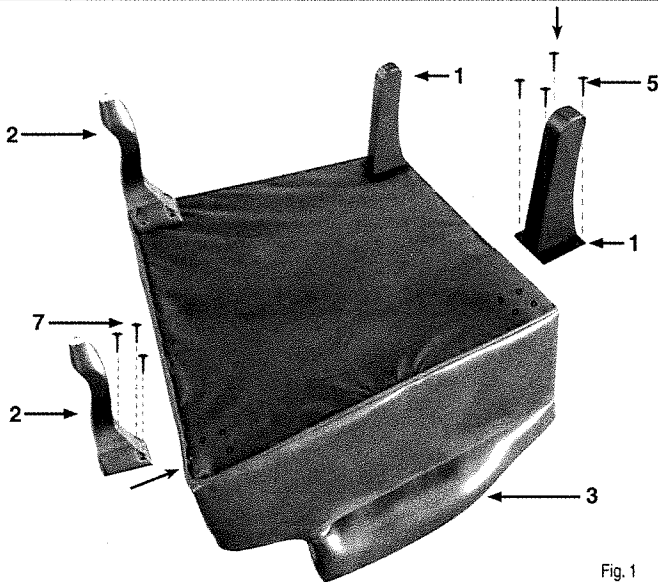

Fig. 1
STEP 2 Using six Short Screws (7) to connect the front legs to the front lower side of the seat cushion (3). (See Fig 1)
STEP 3 Place the rear leg (1) on the frame and using eight Medium Screws (5). (see Fig 1)